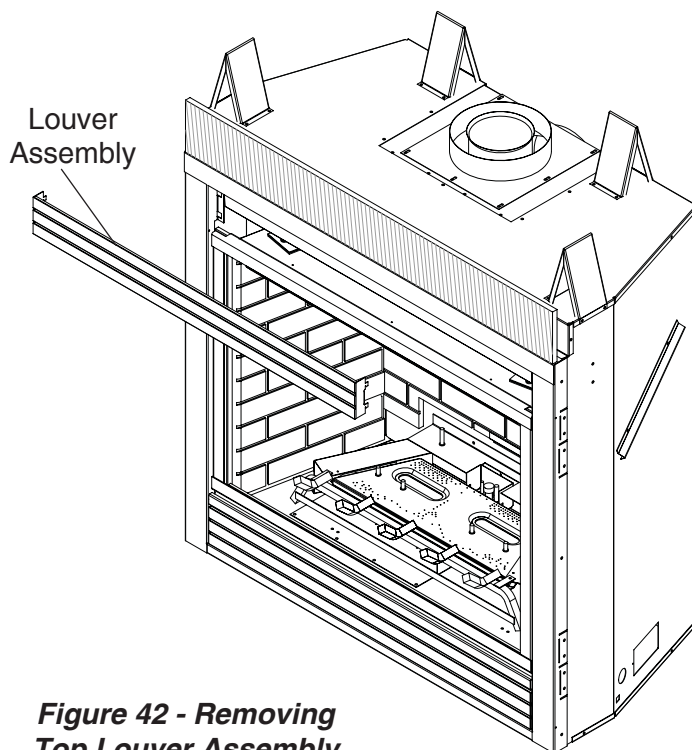

Figure 42 - Removing Top Louver Assembly
1. Unhook top louver assembly. Set aside. *See Figure 42.*